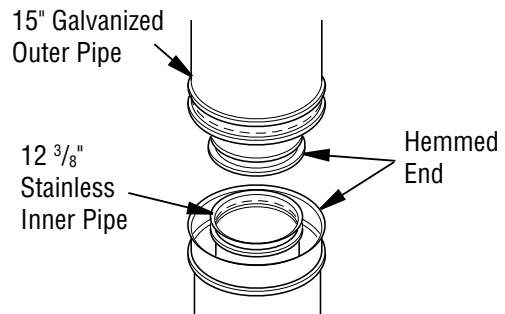

Figure 11 - Lineal Gain
The IHP chimney system consists of 12", 18", 24", 36" and 48" snap-lock, double-wall pipe segments, planned for maximum adaptability to individual site requirements. Actual lengths gained after fitting overlaps must be taken into consideration (lineal gain) and are given in the lineal gain chart (see Figure 11). Lineal Gain is the actual measurable length of a part after two or more parts are connected. For Canada, use chimney parts designated "HT".
1. To achieve desired offset, you may install combinations of 12", 18", 24", 36" and 48" length of double wall pipe (see offset chart and Figure 11).